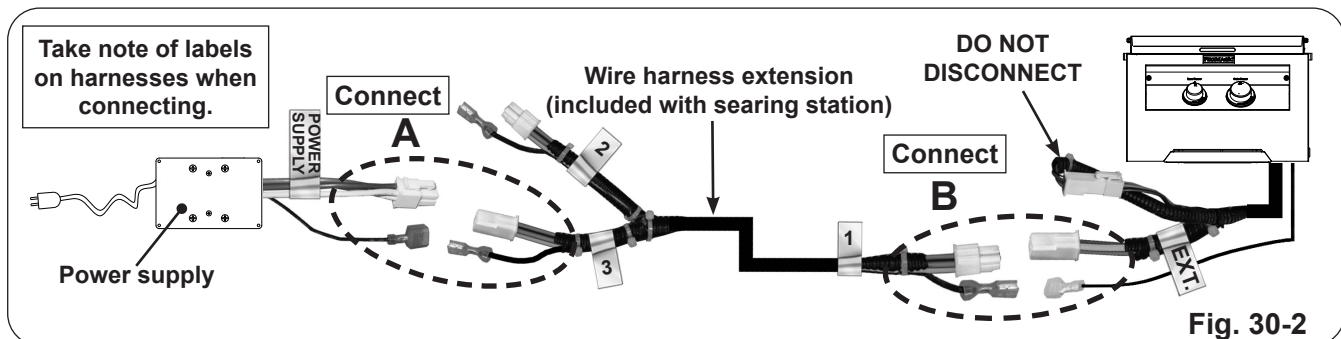

Fig. 30-2
1. Locate the "Y" end of the wire harness extension that is included with the searing station and connect the compatible end to the power supply connectors (see Fig. 30-2, A).
2. Connect the opposite end of the wire harness extension to the searing station connectors (see Fig. 30-2, B).